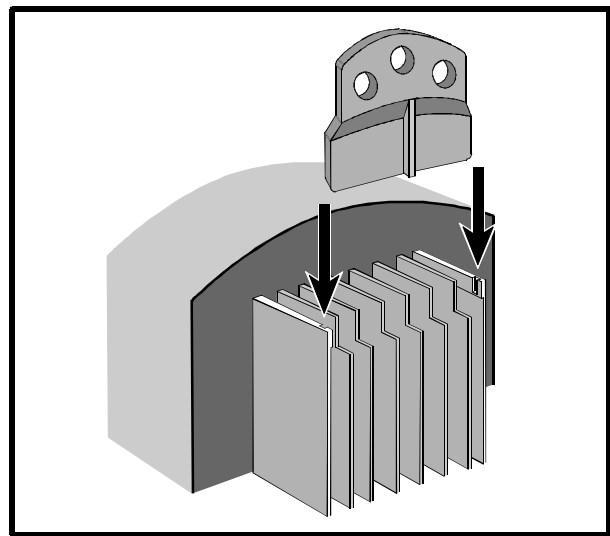

Figure 2–8 General representation showing the fitting of a surface mounting bracket in a heatsink
1. Use the two surface-mounting brackets. These are manufactured from metal. Ensure the brackets make direct electrical contact with the back-plate; for example, tap M6 ($\frac{1}{4}$ in) threaded holes in the back-plate in the positions shown in Figure 2–10 to accept the mounting screws. (For model size 1, you may use the central or, preferably, the two outer screw holes in the mounting bracket.)
2. Insert the surface mounting brackets into the slots in the top and bottom of the Drive heatsink, as shown in Figure 2–8.